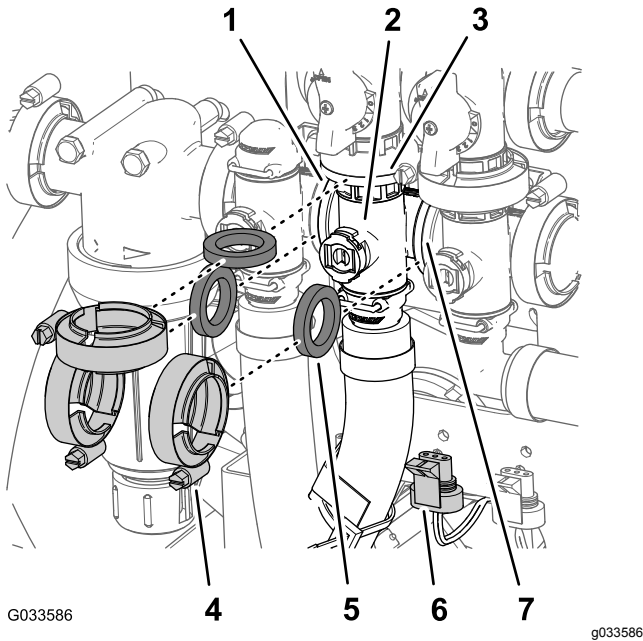

Figure 115
1. Remove 3 flange clamps and 3 gaskets that secure the manifold for the agitation valve (Figure 115) to the agitation bypass valve, rate control valve, and master-boom valve.